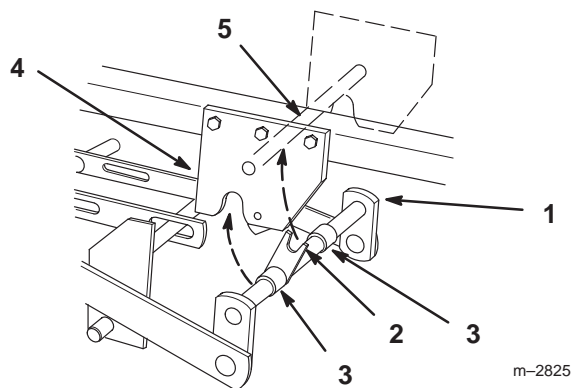

Figure 6
7. Rotate front mounting shaft so fork faces up and align so spacers are between mid-mount hitch plates (Fig. 6).
8. Lift mower with attachment lift and guide fork to capture hitch rod (Fig. 6). Close mid-mount hitch lock handle.